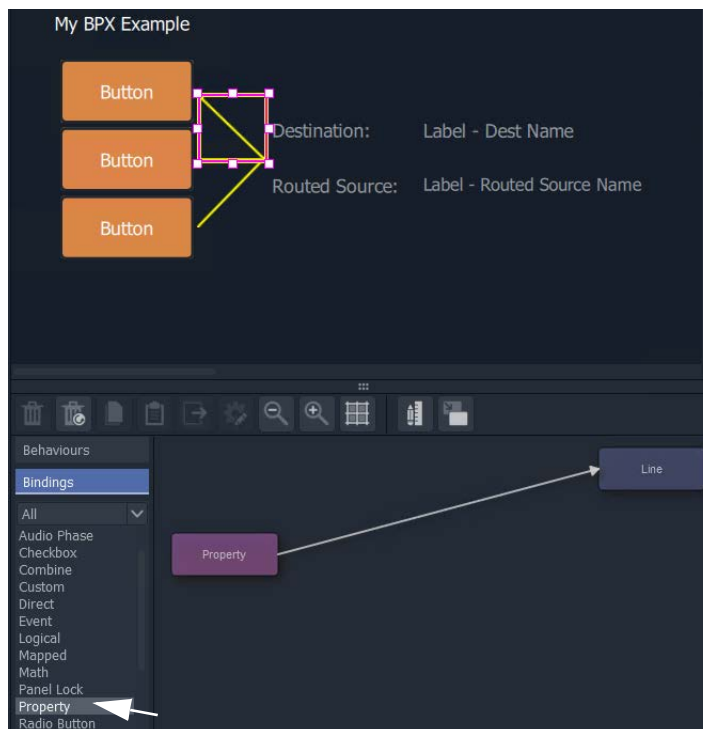

Fig. 13-61: Add Property Binding
- 4 Select the line and add a **Property** Binding. See Figure 13-61.